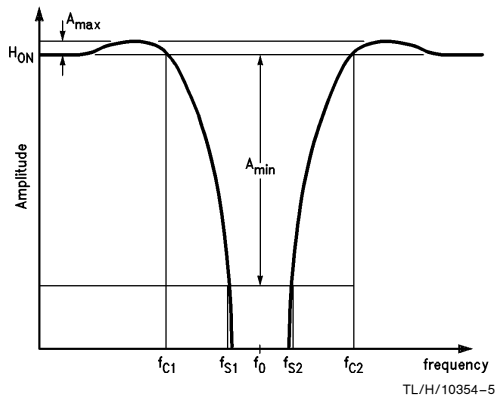

FIGURE 1. General Form of Notch Response
W (Pin 1)	This three-level logic input sets the width of the notch. Notch width is $f_{C2} - f_{C1}$ (see Figure 1). When W is tied to V^+ (pin 14), GND (pin 13), or V^- (pin 8), the notch width is $0.55 f_0$, $0.26 f_0$, or $0.127 f_0$, respectively.
A_{max} : the maximum amount of gain variation within the filter's passband (See *Figure 1*). For the LMF90, A_{Max} is nominally equal to 0.25 dB.
A_{min} : the minimum attenuation within the notch's stopband. (See *Figure 1*). This parameter is adjusted by programming voltage applied to pin 10 (D).
Passband: for a notch filter, frequencies above the upper cutoff frequency (f_{C2} in *Figure 1*) and below the lower cutoff frequency (f_{C1} in *Figure 1*).
Stopband: for a notch filter, the range of frequencies for which the attenuation is at least A_{min} (f_{S1} to f_{S2}) in Figure 1).